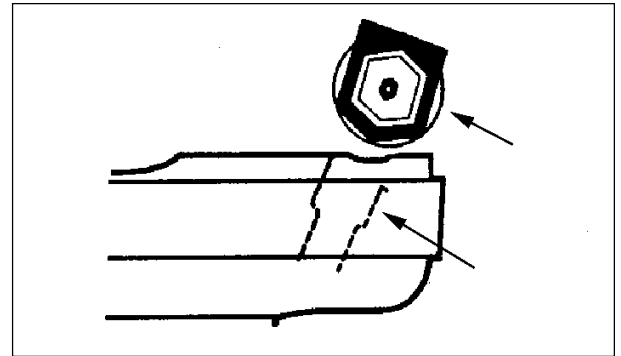
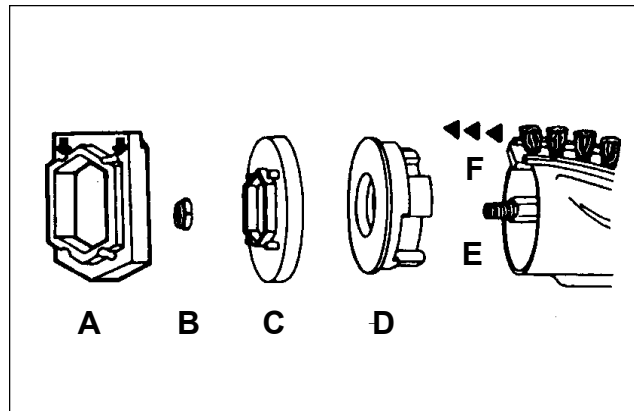
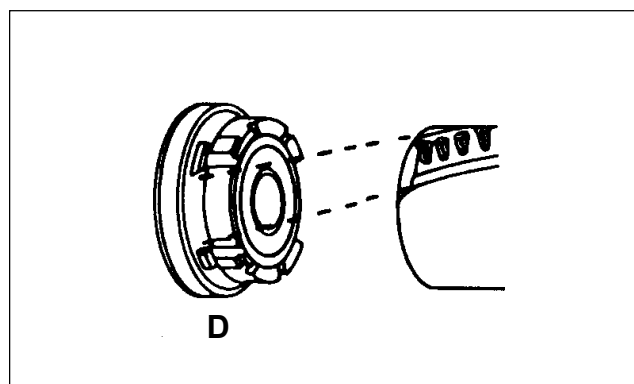

Figure 6
Figure 9
Figure 10
- Place the rubber end cap covers over both end caps (flat side against end cap). Align holes and secure. Then, slant the brush roll forward so the end caps are in line with the slots in the cleaner base. Push the brush roll into the base until seated. See figure 6.
3. Take the rubber end cap cover (figure 6, item A) from the end of the brush roll and unscrew the locknut (figure 9, item B).
4. Remove end cap (figure 9, item C) and bearing retainer (figure 9, item D).
5. Push the exposed end of the shaft (figure 9, item E) through the opposite end of the brush roll.
6. Pull out the worn brush strip (figure 9, item F) with pliers and slide in a new one of the same length, inserting the rounded end first.
9. Return shaft (figure 9, item E) and align the indentation of the bearing retainer (figure 10, item D) with the brush strip on both ends. Seat firmly.
10. Position the end cap (figure 9, item C) with the flat side of the center hole over the flat side of the threaded shaft (figure 9, item E).
11. Tighten locknut (figure 9, item B).
12. Add the end cap cover (figure 9, item A) flat side down and secured over the four end cap projections.